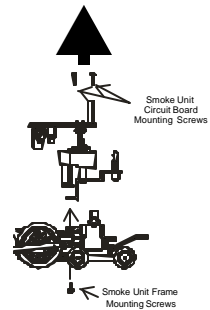

Figure 4: Inspecting The Smoke Unit
**CAUTION:** *Operating the engine without smoke fluid and with the smoke unit switch in the ON position can damage your smoke unit wick, causing the wick to become hard, blackened and unabsorbant around the heating element. When this occurs, it may be difficult for the wick to soak up the smoke fluid resulting in poor or no smoke output. If that occurs, we recommend that you inspect and/or replace the wick taking care to not run the engine without fluid in the future. You can inspect the wick to see if it needs replacement by removing the smoke unit inspection cover from the body as seen in Fig.4. After removing the chassis and inspection cover screws lift the inspection plate away and inspect the wick. If the wick is darkly discolored and hard, it should be replaced.*